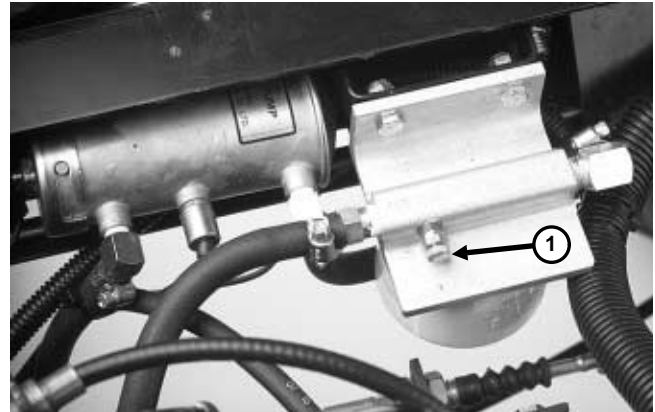

Figure 39
1. With the engine OFF, loosen the air bleed screw on the fuel filter / water separator (Fig. 39).